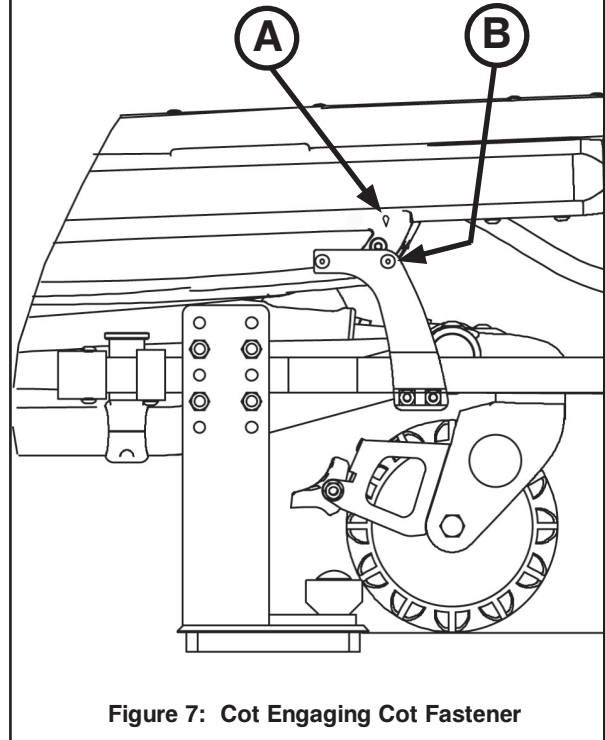

Figure 7: Cot Engaging Cot Fastener
6. Adjust the shut-off bracket along the rail clamp until the “diamond” on the sensor housing is lined up with the pop rivet head as shown in Figure 7.